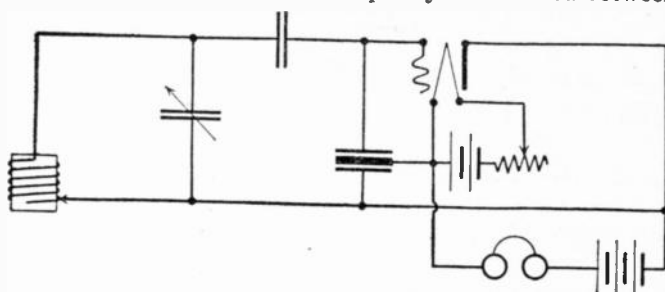

Fig. 21.—Another Method for Making the Circuit Oscillate.
**B. Tickler condenser method.** The coupling condenser shown in Fig. 21 is made of two fixed and one variable plate, arranged so that when capacity is increased between